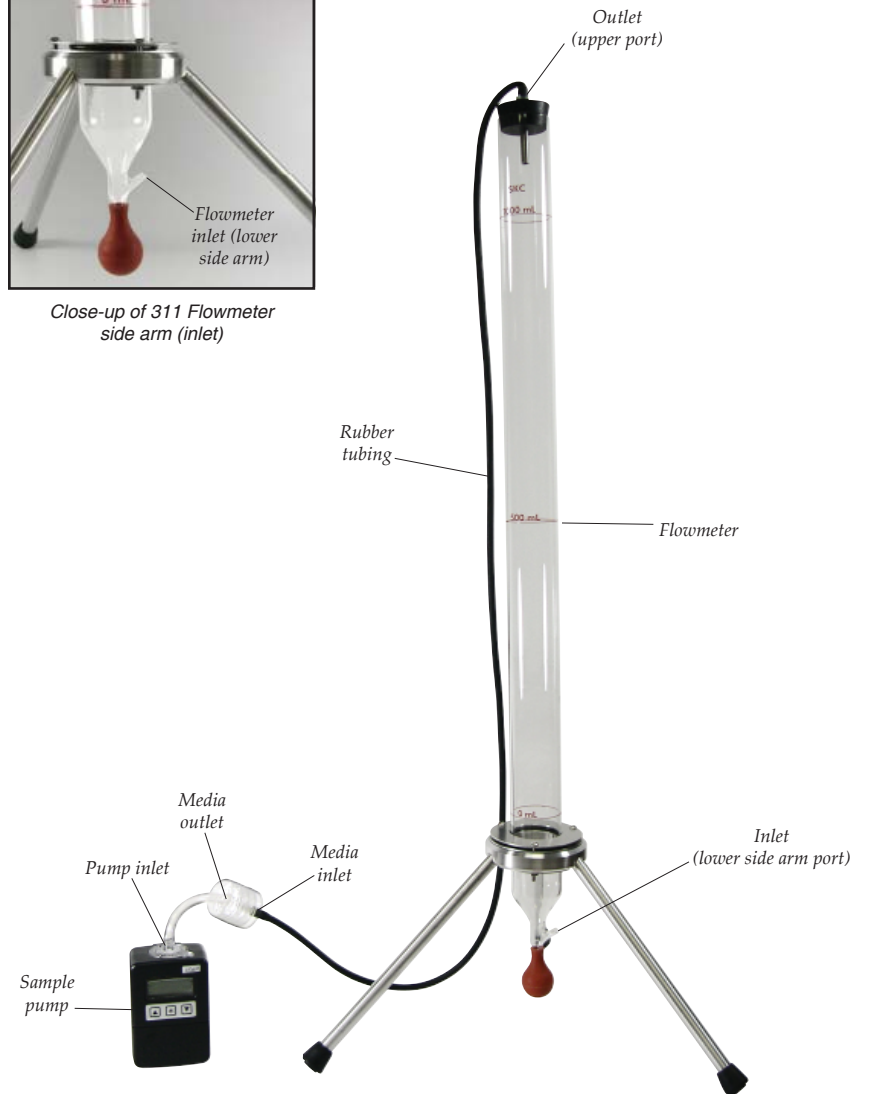

Figure 1.
*To calibrate a sample pump,* connect the pump, with the sampling media in line if applicable, to the appropriate end of the flowmeter. If the pump **draws** air, connect it to the rubber tubing attached to the rubber stopper (see Figure 1 on reverse side). If the pump **blows** air, connect it to the lower side arm of the flowmeter using rubber tubing. The 311 Laboratory Film Flowmeter Kit is calibrated to within ± 2% of the volumes marked on the flowmeter.